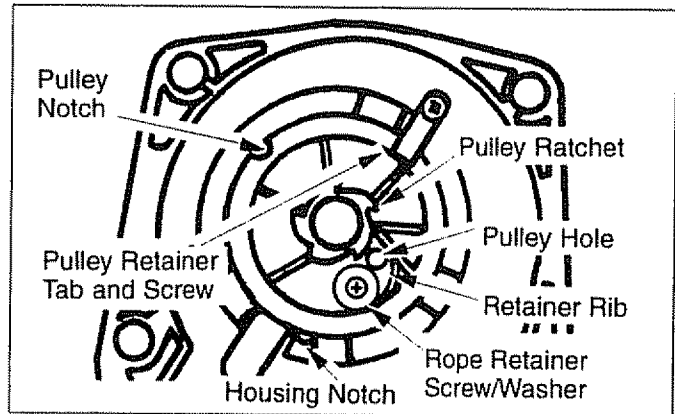

Figure 20
- Guide rope inside the pulley, then through pulley hole. Figure 20.
- Install and tighten the retainer screw/washer. Figure 20.